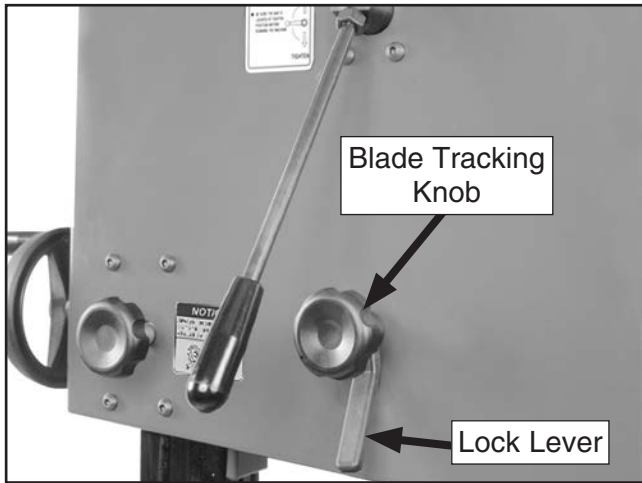

Figure 16. Blade tracking controls.
5. Loosen the lock lever shown in **Figure 16** so that the blade tracking knob can rotate.